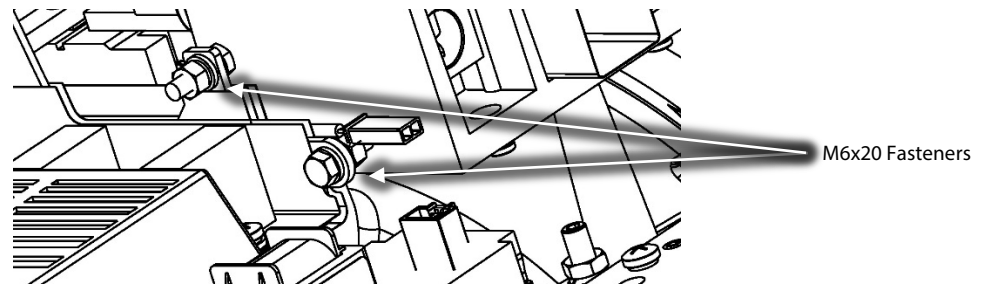

Figure 10 – Soft Start Harness Removal
22. Disconnect the DC+ and DC- of the Soft Start harness from the DC bus assembly noting the orientation. Refer to Figure 10 (Soft Start Harness Removal).
23. Reconnect the DC+ and DC- of the Soft Start harness from the DC bus assembly noting the orientation and torque to 10 Nm (7 ft.lb.). Refer to Figure 10 (Soft Start Harness Removal).